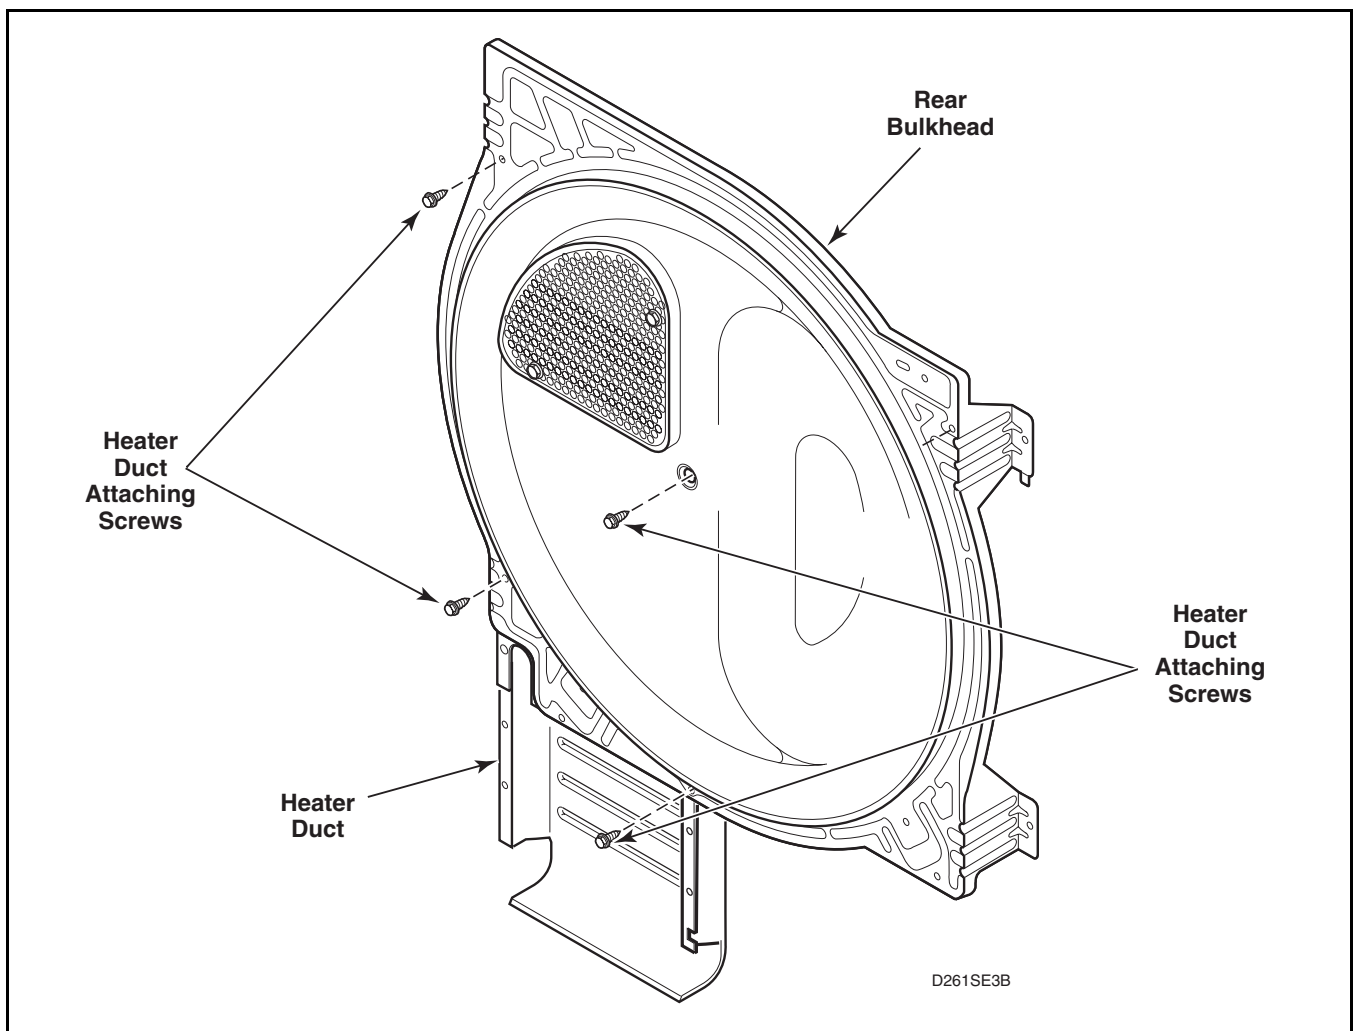

Figure 37
- l. Remove heater duct from rear bulkhead. Refer to *Figure 37*.